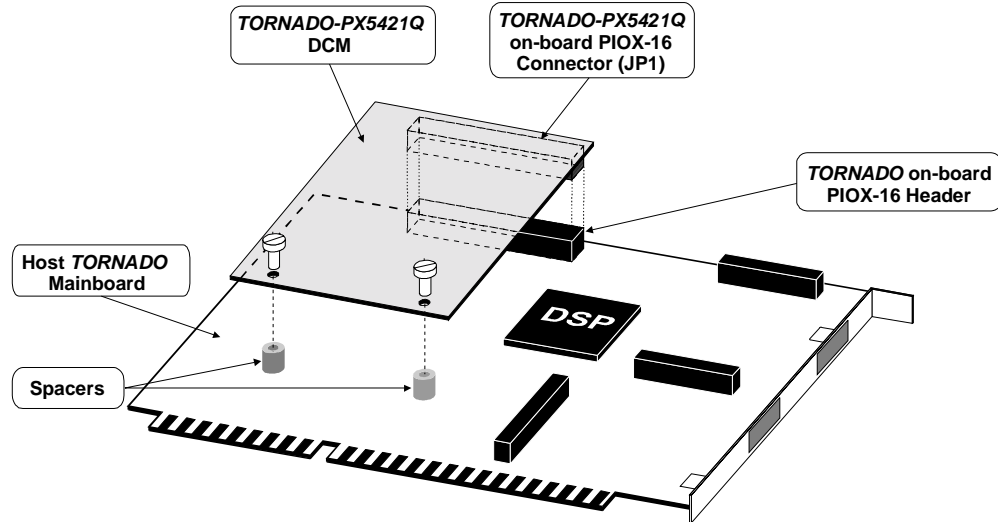
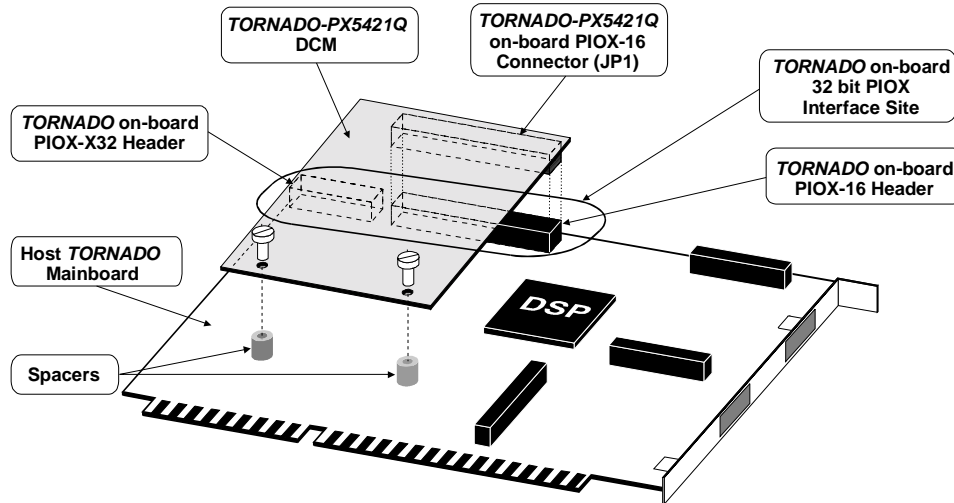

Fig. 3-1a. Installation of *TORNADO-PX5421Q* DCM into PIOX-16 site of host *TORNADO* DSP system.
Fig. 3-1b. Installation of *TORNADO-PX5421Q* DCM into 32-bit PIOX site of host *TORNADO* DSP system.
4. Pick-up *TORNADO-PX5421Q* DCM AND orient it parallel to *TORNADO* mainboard over PIOX-16 DCM area. Safely plug-in on-board JP1 host PIOX-16 connector of *TORNADO-PX5421Q* DCM into the corresponding PIOX-16 site header of host *TORNADO* mainboard (fig.3-1a). In case host *TORNADO* mainboard provides on-board 32-bit PIOX interface site, then you have to plug *TORNADO-PX5421Q* DCM into the PIOX-16 sub-connector of host PIOX interface site at host *TORNADO* mainboard (fig.3-1b).